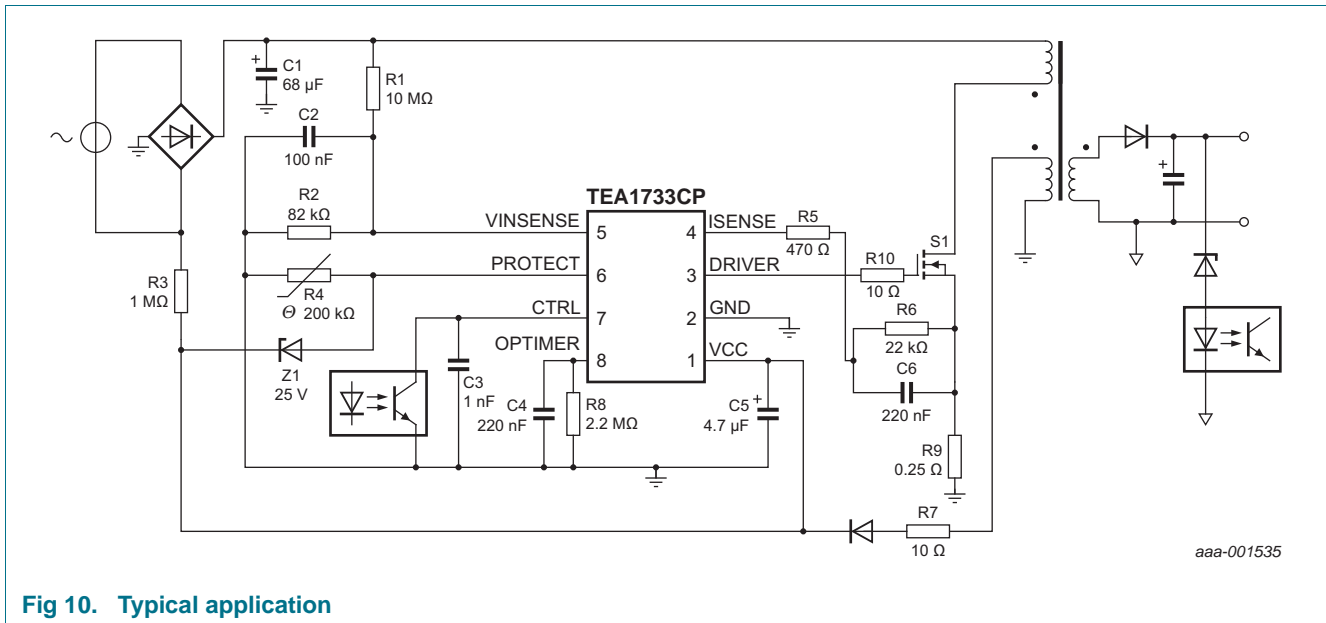

Fig 10. Typical application
A power supply with the TEA1733CP is a flyback converter operating in Continuous conduction mode (See Figure 10).
In the example shown in Figure 10, the PROTECT pin is used for OVP and OTP. Diode Z1 sets the OVP level to  $V_{CC} = 25.8\text{ V}$ . Negative Temperature Coefficient (NTC) resistor R4 sets the OTP level. The VINSENSE pin is used for mains voltage detection and resistors R1 and R2 set the start voltage to about 80 V (AC). Capacitor C4 sets the overpower protection time at 60 ms.